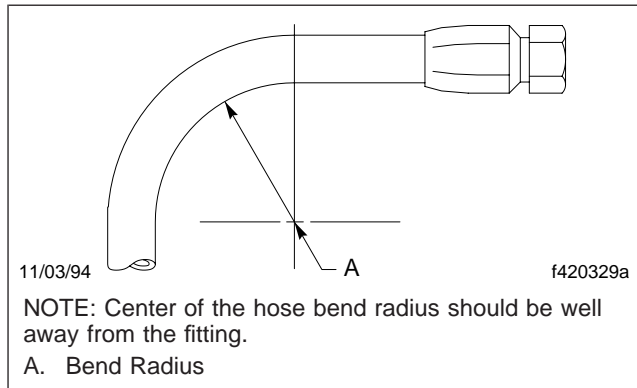

Fig. 11.10, Bend Radius
23.7 Check the bend radii of all hoses. See **Fig. 11.10**. The minimum bend radius of a hose is that bend which the hose will withstand without experiencing damaging stresses or kinking. For minimum bend radius values, take your vehicle to an authorized Freightliner dealer for assistance.